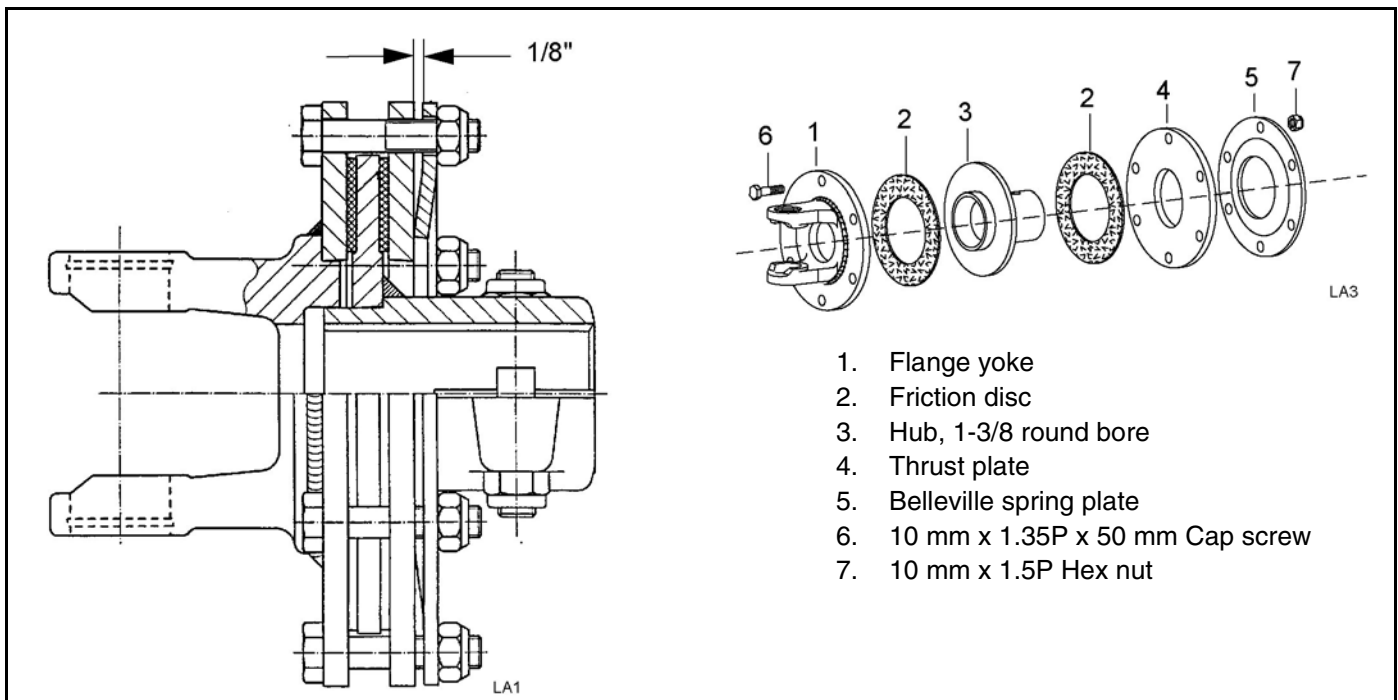

Figure 15. Slip Clutch Assembly
1. Turn off tractor engine and remove key. Remove driveline from tractor PTO. Loosen six 10 mm cap screws (6) to remove all tension from Belleville spring plate (5).
2. Hold clutch hub (3) solid and turn shaft to make sure clutch slips.
3. If clutch does not slip freely, disassemble and clean the thrust plate faces (4), flange yoke (1), and clutch hub (3).
4. Reassemble clutch. Tighten Belleville spring (5) until it is against the thrust plate (4) of the clutch, and then back off each of the six nuts by two full revolutions. The gap between Belleville spring and thrust plate should be $1/8$ " as shown in Figure 15.
5. If a clutch continues to slip when the spring is compressed to $1/8$ ", check friction discs (2) for